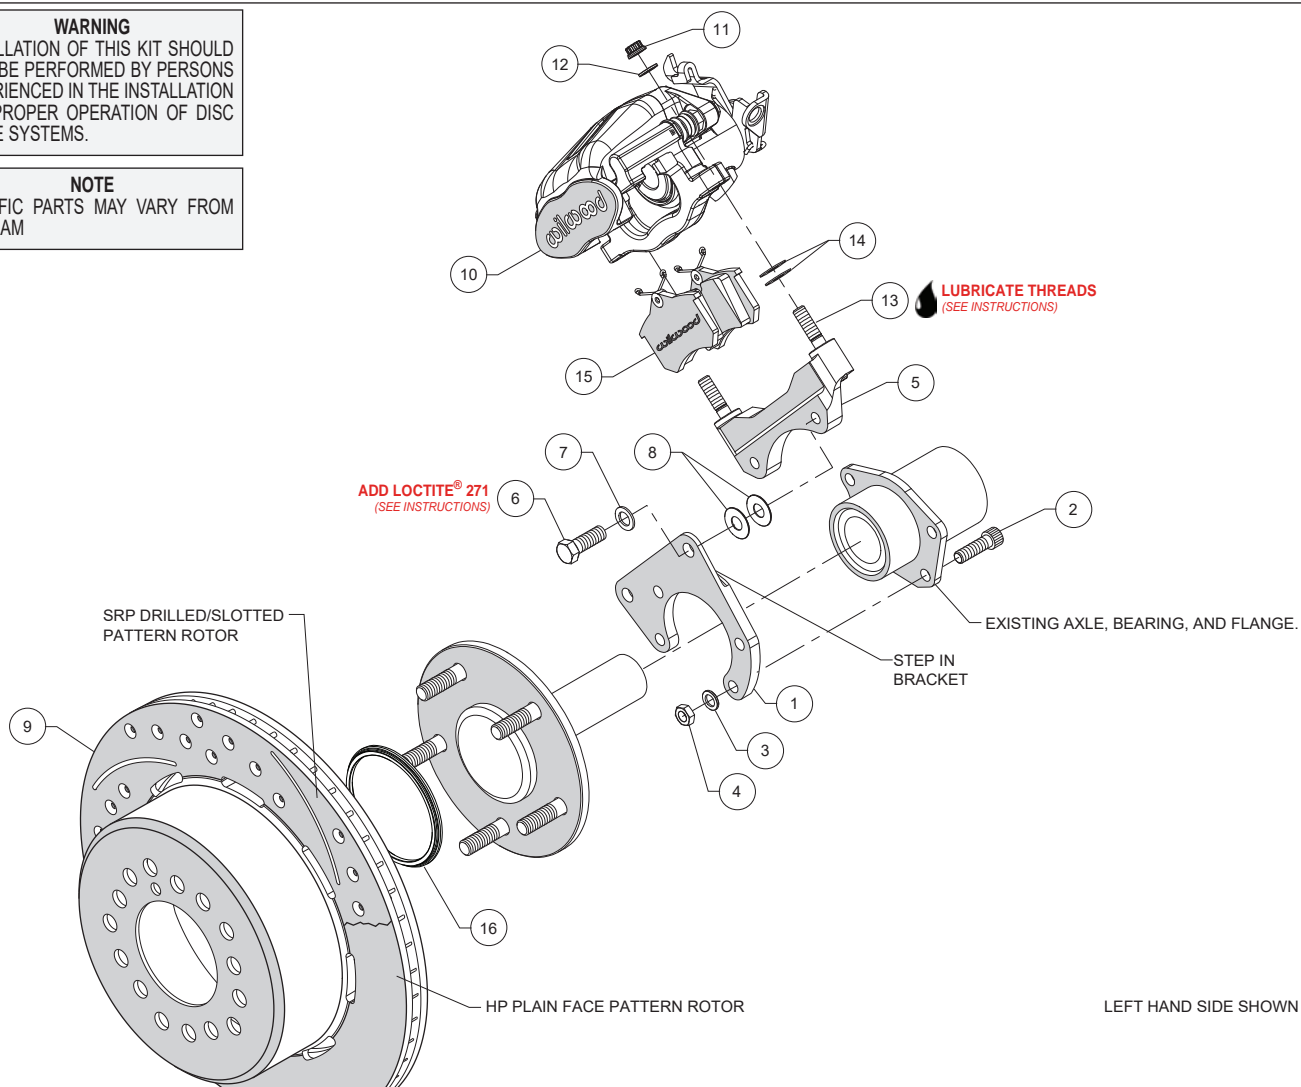

Figure 1. Typical Installation Configuration
- For 2.61 offset rear axles - Orient the flange bracket (1) as shown in Figure 1, and install using mounting bolts (2), washers (3), and nuts (4).
- For 2.50 offset rear axles - Orient the flange bracket (1), by flipping it over so that the flat side is against the axle flange (opposite from what is shown in Figure 1). This will require using the right hand bracket on the left hand side, and vice versa. Install using mounting bolts (2), washers (3), and nuts (4).
- The caliper mount bracket (5) should initially be installed with clean, dry threads on the mounting bolts. Orient the bracket as shown in Figure 1, and install using mounting bolts (6) and washers (7). Initially place two .030" thick shims (8) on each bolt between the flange bracket (1) and the caliper bracket, Figure 1. Later, after the caliper alignment has been checked, the mount bolts will be secured using red *Loctite*® 271.
- Slide the rotor registration adapter (16) onto the axle register on the axle hub with the smaller O.D. facing toward the rotor/hat (9), Photo 1.
- Align the correct hole pattern in the rotor/hat with the stud pattern on the axle flange and slide into place, Figure 1 and Photo 2. **NOTE:** The rotor/hat must fit flush against the axle flange or excessive rotor run out may result. Install three lug nuts (finger tight) to keep the rotor/hat assembly in place while continuing with the installation. **NOTE:** Some OEM and after market axles come with stud sizes larger than 0.50" diameter. Verify stud size and have a qualified machine shop drill the bolt circle of the hat/rotor to the correct stud size, if necessary.
- Slide the brake pads (15) up into the caliper (10) from the bottom with the friction material facing the rotor until the "v" spring clip snaps into place against the anvil, as shown in Figure 1 and Photo 3. They should install easily without interference.
- Lubricate the caliper mounting studs (13) with lightweight oil. Initially place two .035" thick shims (14) on each stud as shown in Figure 1. Mount the caliper (10) onto the bracket (5) using washers (12) and lock nuts (11), as shown in Figure 1. Temporarily tighten the mounting nuts and view the rotor (9) from the end of the caliper. The rotor should be centered in the caliper, Photo 4. If not, adjust by adding or